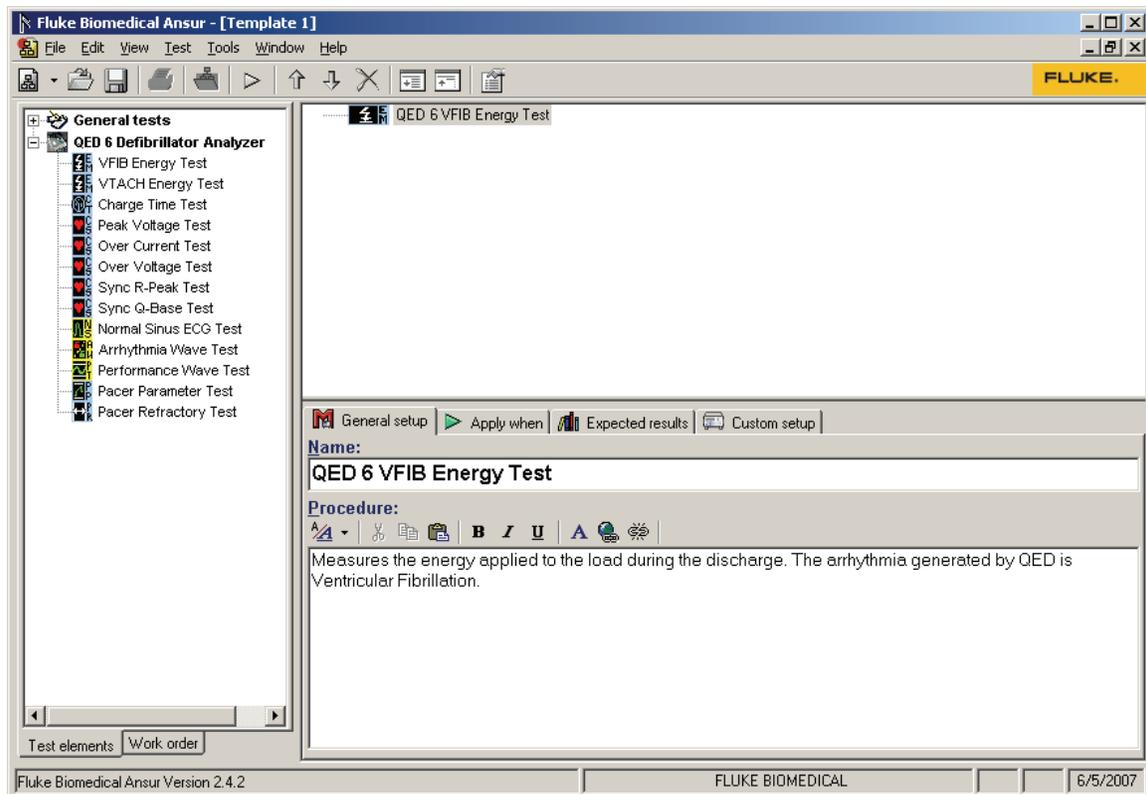

Figure 4-1. Test Template with Selected Test Element
1. Drag a test element from the **Test Explorer** (left pane) into the **Test Template** (right pane), as displayed in Figure 4-1. Clicking the test element in the **Test Template** highlights the test element and its properties. In this illustration, the highlighted element is the **QED 6 VFIB Energy Test**, the first test step to be performed.